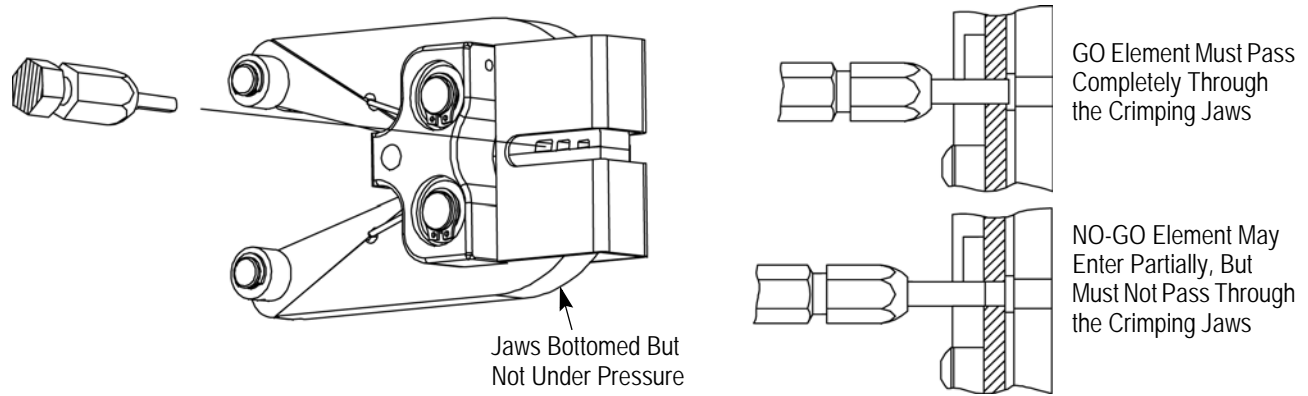

Figure 5
3. Align the GO element with the crimping chamber. Push the GO element straight into the crimping chamber without using force. The GO element must pass completely through the crimping chamber. See Figure 5.